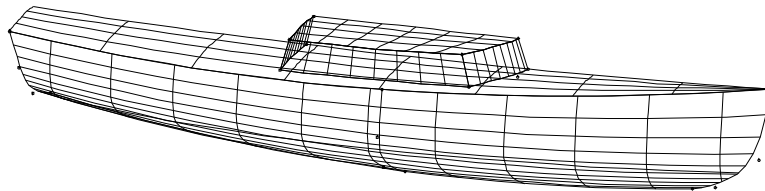

Fig. 5
- 7 **Drag ring 'Cabin.cr0' forward to t = 0.34** (Fig. 5) [This should match our distribution model COMPBT2.MS2.]